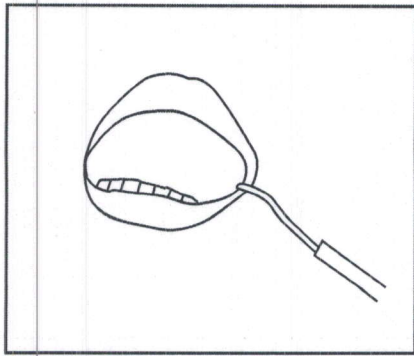

Fig.9
4) Link the lip clip to the patient.(Fig.9)